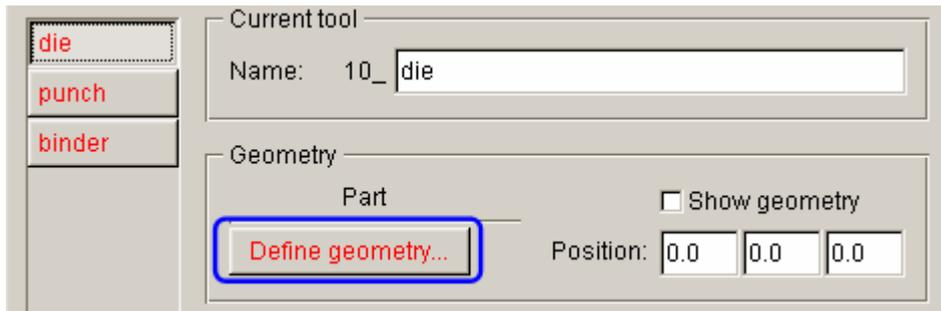
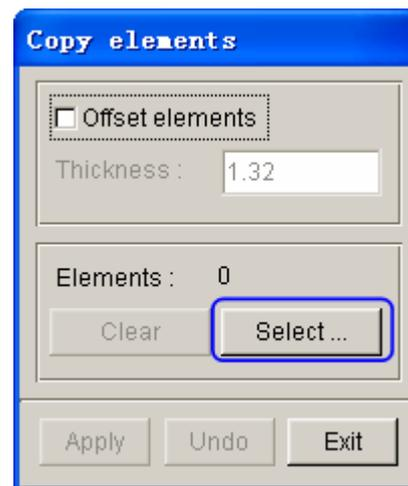

Figure 5.42 Before die definition
Figure 5.61 Copy elements dialog box
4. Click the **Define geometry...** button to assign a part as die. See Figure 5.42.
32. Click **Define geometry...** to display the DEFINE GEOMETRY dialog box illustrated in Figure 5.42. Then, click **Copy Elem...** button to display the COPY ELEMENTS dialog box illustrated in Figure 5.61.